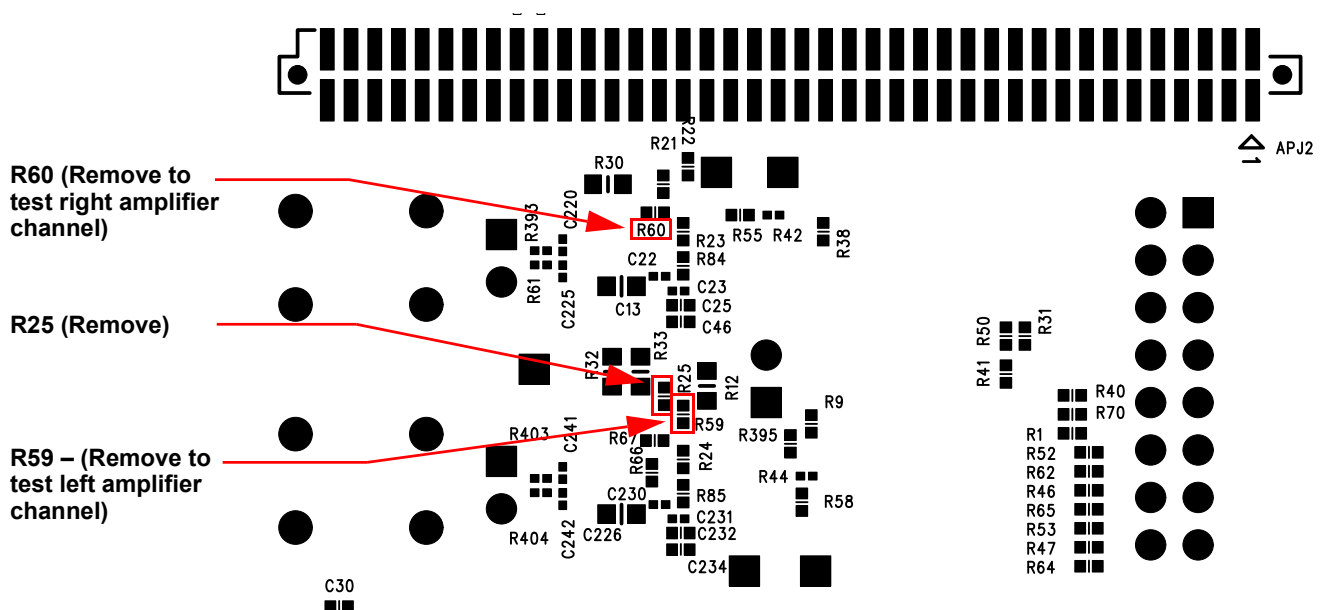

Figure 2-2. R25, R59 and R60 location (bottom side of the PCB)
1. Remove R25 on the bottom side of the PCB (Fig. 2-2).
2. If testing is to be performed on the Left amplifier channel only, remove R59. If testing is done only on the Right amplifier channel, remove R60. This disconnects 1.8V from the respective amplifier IC. Both resistors are located on the bottom side of the PCB (Fig. 2-2).